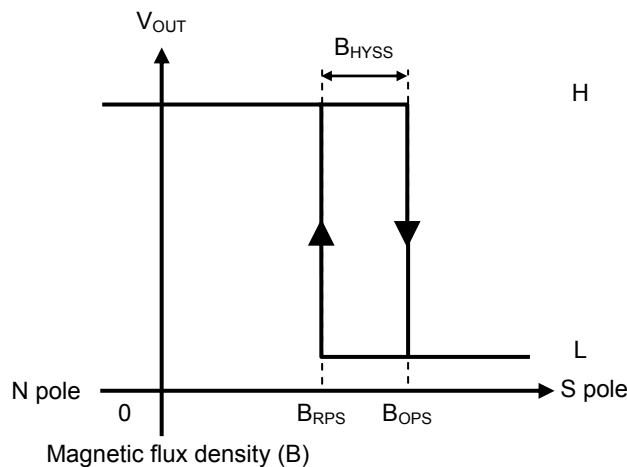

**Figure 15**
**Figure 15** shows the relationship between the magnetic flux density and  $V_{OUT}$ .